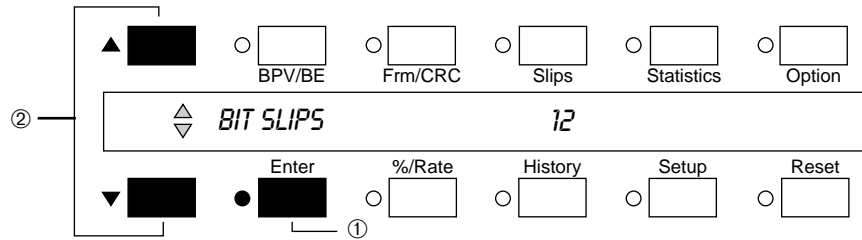

Figure 5-1 Error Monitor area of the front panel showing arrow and Enter keys
The Up and Down arrow keys (Ⓜ in Figure 5-1) are used to scroll through different counts, statistics, and menu items, or to change the value of an item. The flashing Up and Down arrow character in the display indicates that the text to the immediate right can be changed.
The Enter key (① in Figure 5-1) operates while inside the History, Setup, Print, and Option menus. The Enter key enters or confirms the action that is displayed. The exact usage is discussed with those menu items in which it is used.